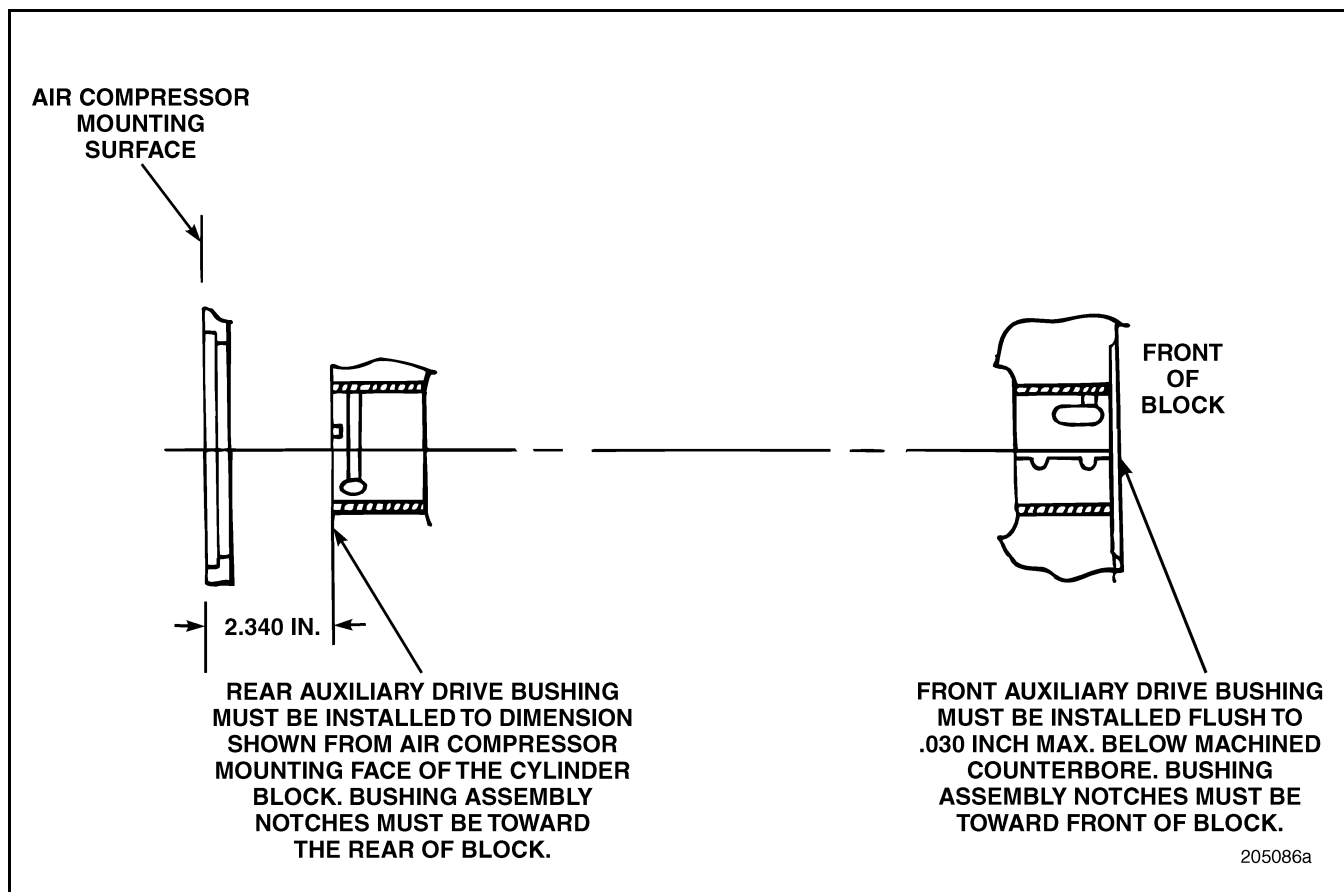

Figure 144 — Auxiliary Bushing Installation Dimensions
8. Bushings must be installed to the depths described in Figure 144.